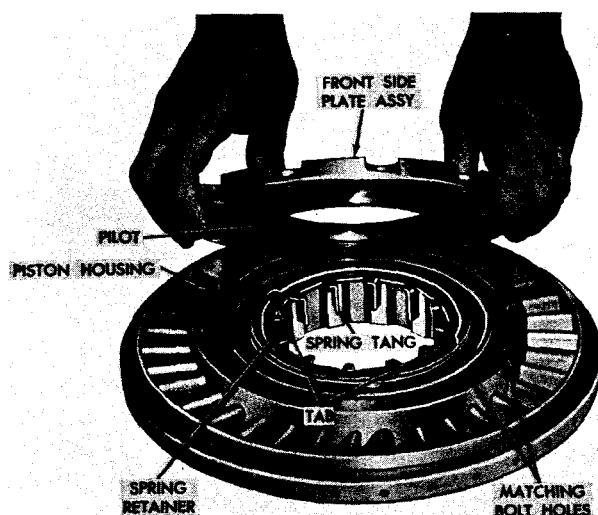

Fig. 6-8. Installing front-side plate assembly onto piston housing
(6) Install the spring retainer into the stator cam, with the spring tangs down (fig. 6-8). Make certain the retainer tabs are properly located in the hub of the cam. Install the front side plate assembly, making certain the pilot seats properly against the spring retainer. Aline the bolt holes.